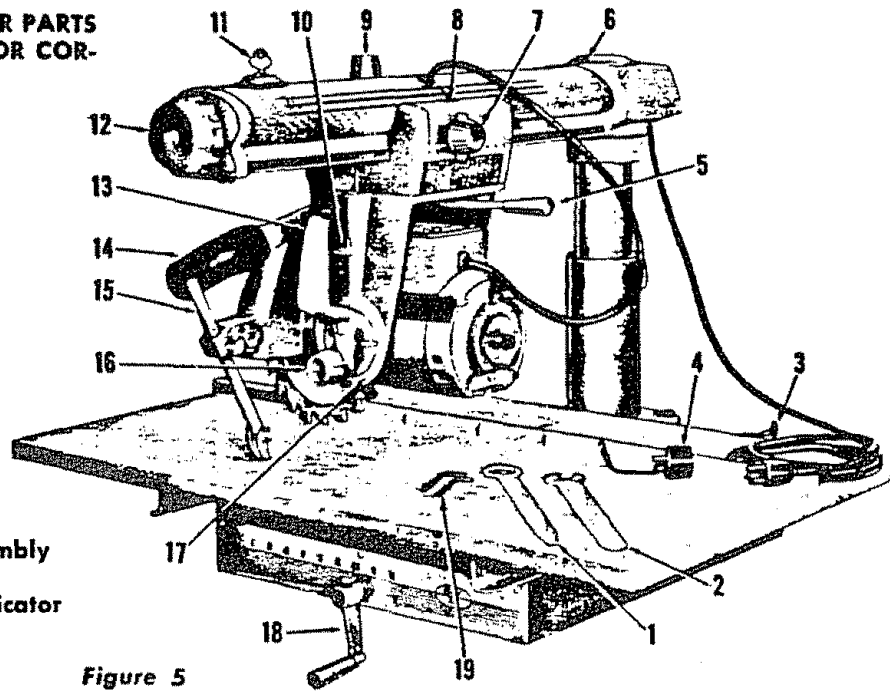
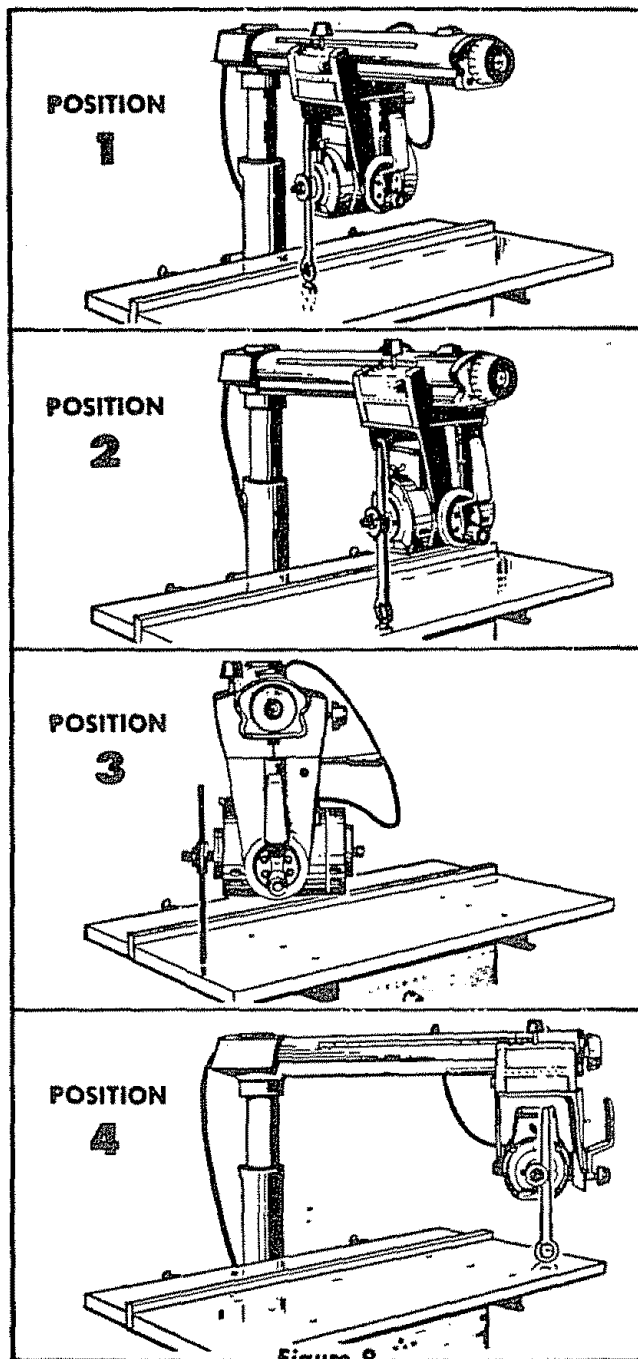

Figure 5
Figure 9
3. Insert arbor wrench between collars on motor shaft. See Figure 9. Tighten shaft nut by hand.
4. Tighten radial arm handle (Item 12, figure 5).
5. Loosen carriage lock knob (Item 7, figure 5) and turn elevation crank until end of arbor wrench just touches the table top thus permitting the wrench to be swung back and forth. See Position 1, Figure 9. Mark this spot and Positions 2, 3 and 4 with a pencil.
Do not turn the elevation crank throughout the remainder of this procedure as the radial arm must remain at the same height above the table while checking at Positions 1, 2, 3 and 4 of Figure 9.
7. Turn arm latch handle (Item 12, figure 5) counterclockwise and pull out. Move arm to Position 3 of Figure 9. Tighten radial arm handle and repeat procedure of step 6.
8. Move radial arm to Position 4 of Figure 9, tighten radial arm handle and repeat above procedure.
3. When channels are properly adjusted the arbor wrench will just contact the table top when swung back and forth at Positions 1, 2, 3, and 4 of Figure 9. Tighten clamping screws (Item 1). Recheck the four positions to insure that no change has occurred.
- a. If saw tooth "A" (Figure 15) moves away from the square when moving the blade from the rear to the front of the table, completely loosen the three screws holding the table to the channel on the lefthand side of the table and slightly loosen those on the right side of the table. Slightly tighten the left table clamp (Item 1, Position 4, Figure 9).